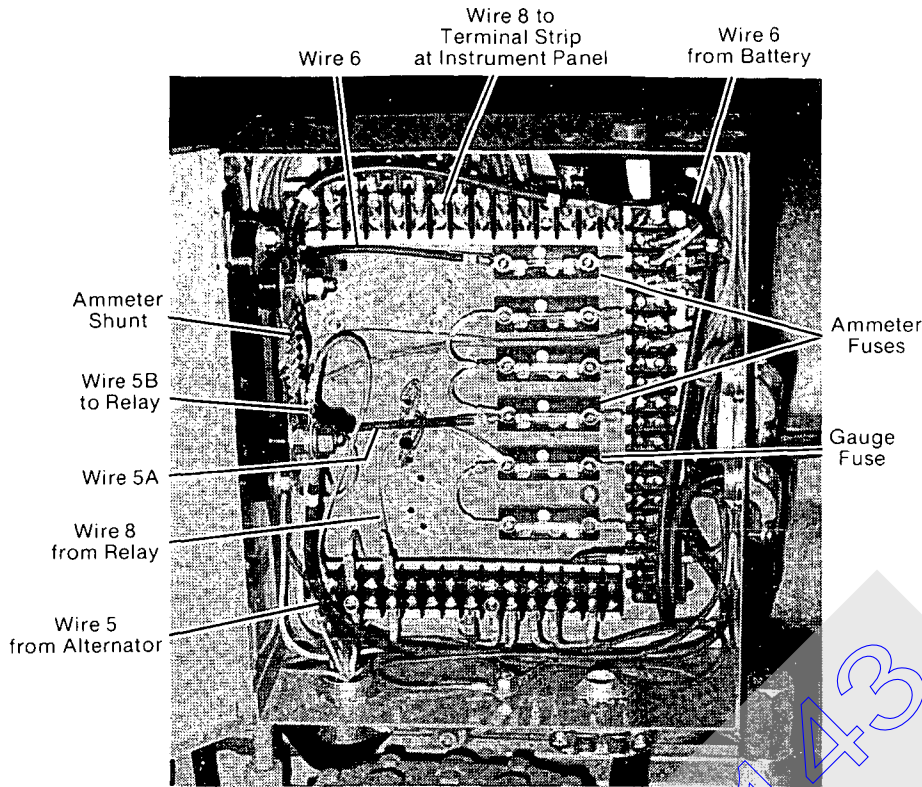

Figure 4 Junction Box on Engine
3. Using a screwdriver as shown in Figure 4, slowly push **down** the plunger inside the flow switch.
1. Inspect the gauge fuse in the junction box (see Figure 4). If the fuse is "blown," replace it with a new one. If the fuse is okay, perform step 2.
1. Inspect the ammeter fuses in the junction box (see Figure 4). If either fuse is "blown," replace it with a new one.
4. If a shunt is used (see Figure 4), replace the original shunt with one known to be correct. If normal indications result, replace the original shunt.